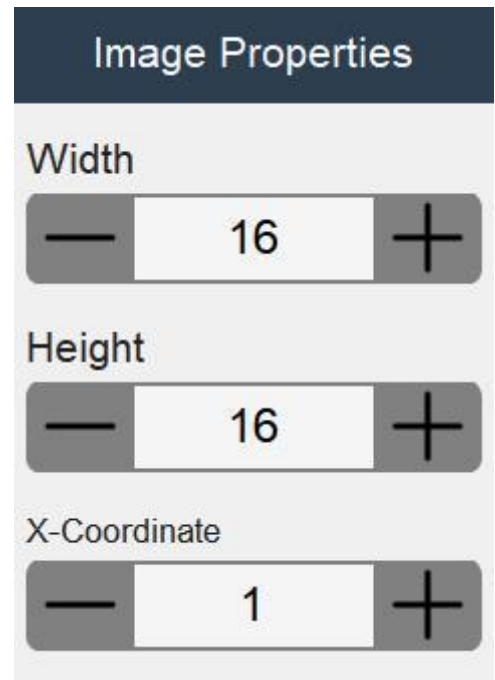

Figure 3-11 Image editing interface
1. If you need to print a picture, please click the button "Information Editing Area", as shown in Figure 3-11 and a default picture will appear in the.